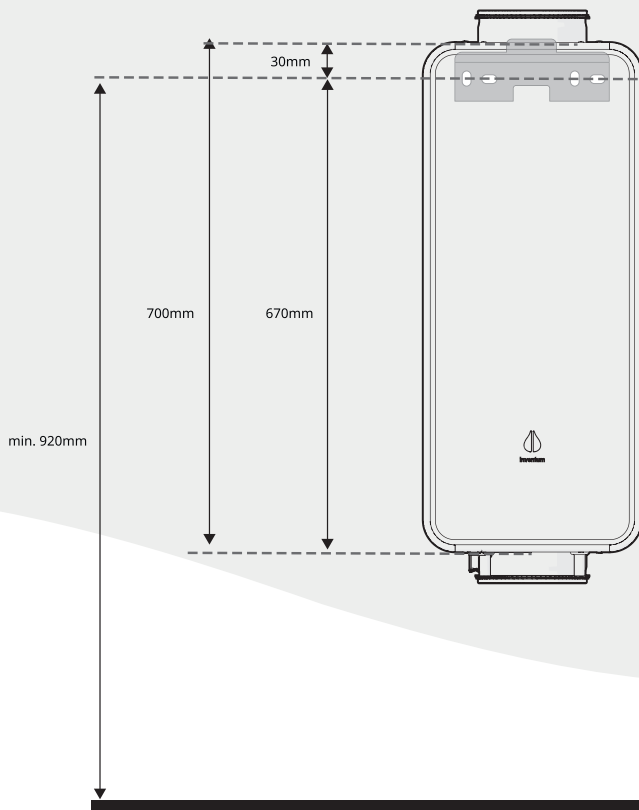

Figure 7 The recommended sizes for hanging the GreenComfort on a wall.
1. Measure where you want to attach the wall bracket. Figure 7 shows the recommended dimensions.